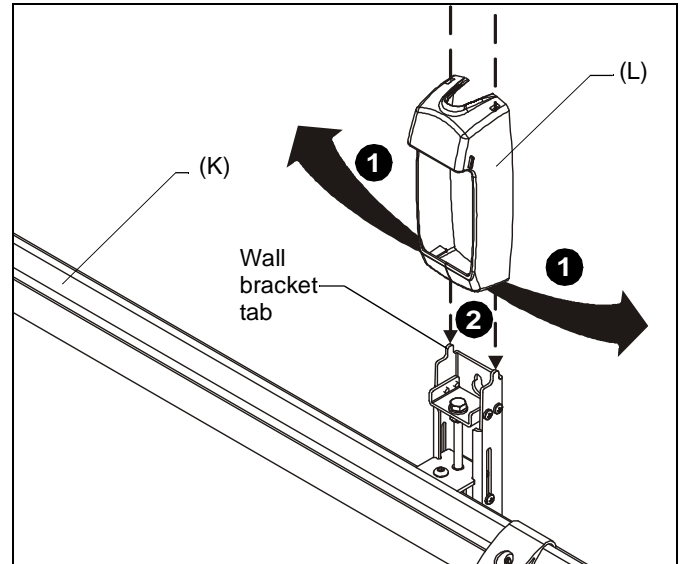

Figure 14
1. Open the lower flaps of the wall bracket cover (L) outward. (See Figure 14)
2. Slide the cover downward, hooking the top of the wall bracket covers (L) onto the tabs on top of wall assembly brackets. (See Figure 14)
3. Slide the lower flaps of the wall bracket cover (L) under the bottom of the wall assembly brackets (K). (See Figure 14)